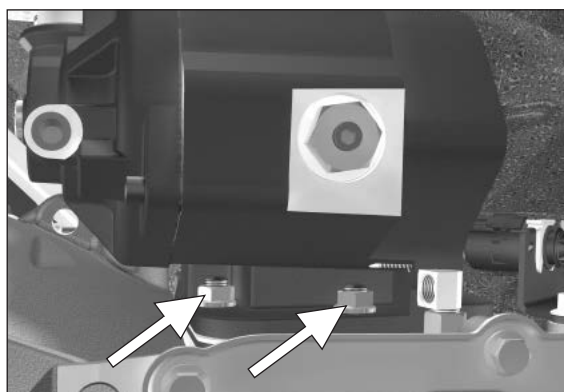

Figure 33
12. Install the bottom two self-locking nuts. **DO NOT** tighten down at this time (**Fig. 33**).